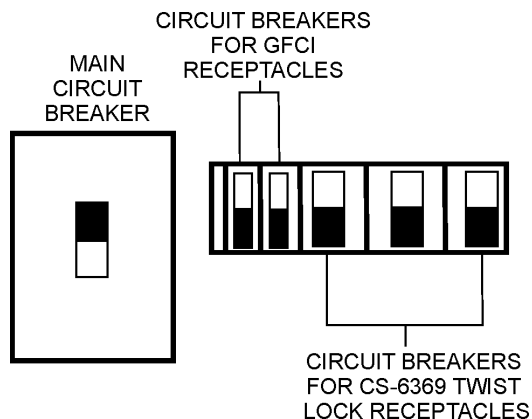

Figure 57. Main, Aux. and GFCI Circuit Breakers (ON)
17. Place the **main**, **GFCI**, and **aux.** circuit breakers in the "ON" position (Figure 57).